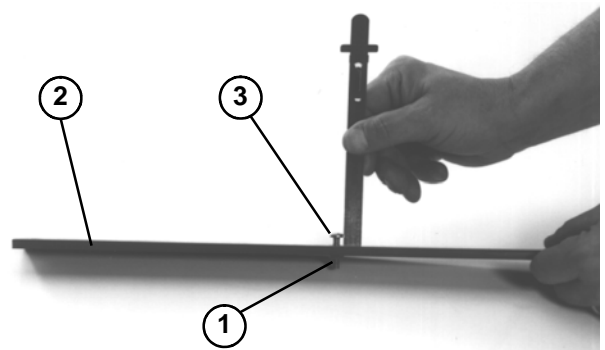

Figure 16
4. Loosen nut on gauge bar and set adjusting screw to desired height-of-cut. Distance between bottom of screw head and face of bar is height-of-cut (Fig. 16).